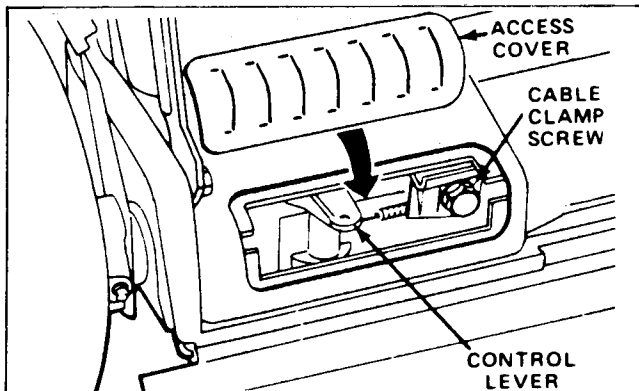

Figure 32
2. Remove access cover from the rear of the mower housing. See Figure 32.
4. **Adjustment** - Refer to Figure 32. Loosen the cable clamp screw until cable conduit slides. Push the shift lever toward the cable clamp screw. Push the cable sheath to the right to remove the slack and tighten the clamp screw.